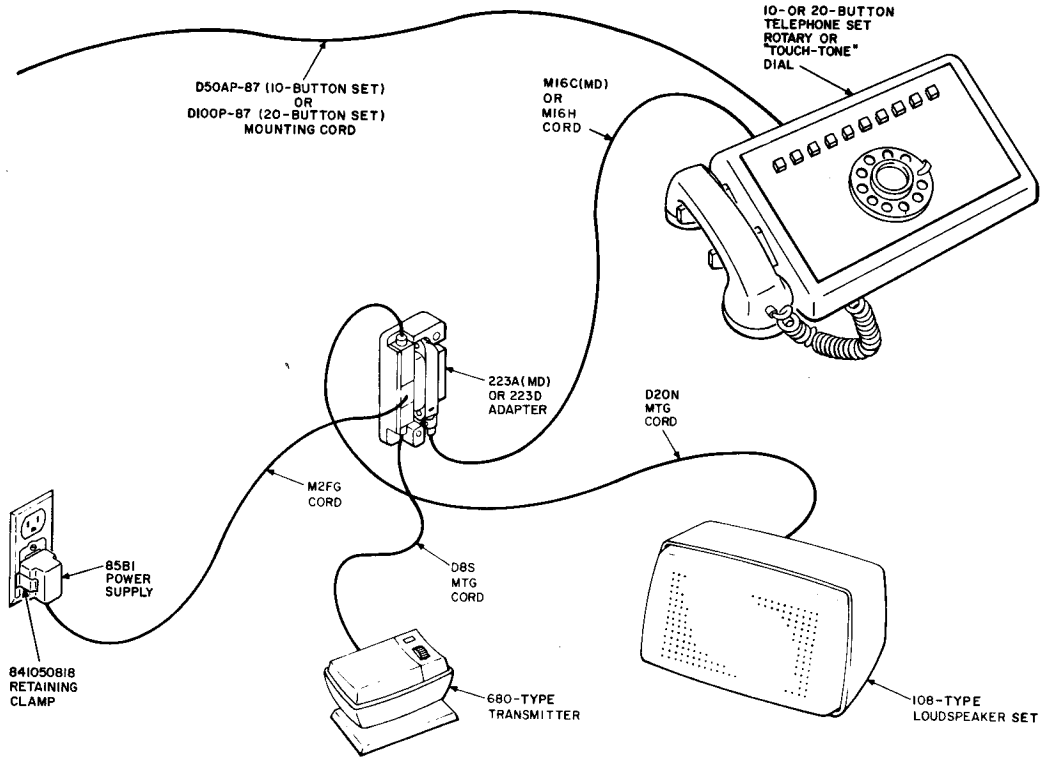

Fig. 1—4A Speakerphone System Arrangement, 10- or 20-Button Telephone Set
2.05 Power is supplied by connecting an 85B1 power unit using M2FG cord as shown in Fig. 1 and 2.